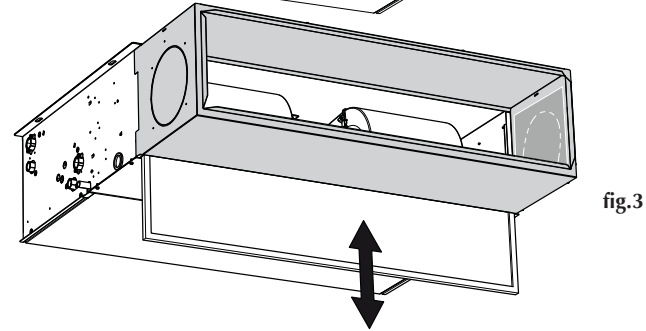

fig.3
- The filter remains in its original position and can be extracted for routine maintenance/replacement (fig.3)